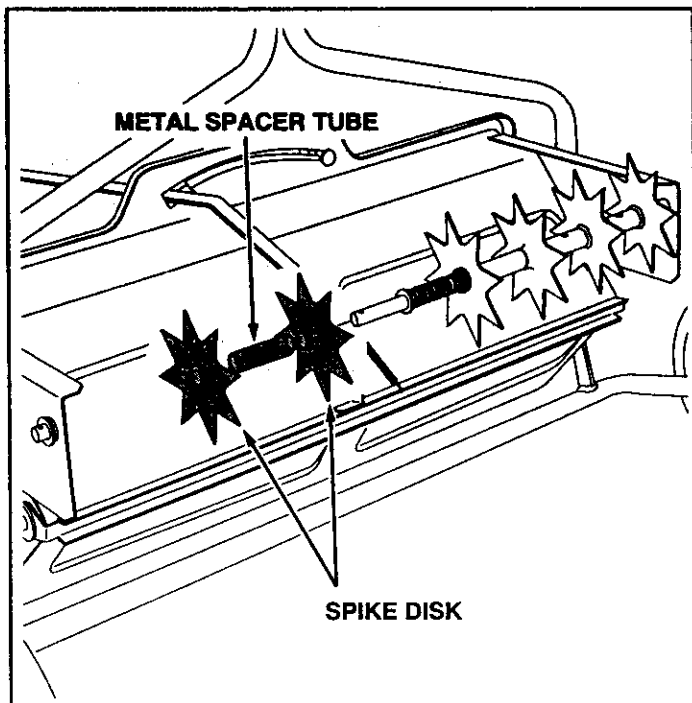

FIGURE 17
- Place two spike disks, separated by a metal spacer tube, onto the shaft. Fit the metal spacer tube onto the ends of the flanged bearings in the disks. See figure 17.